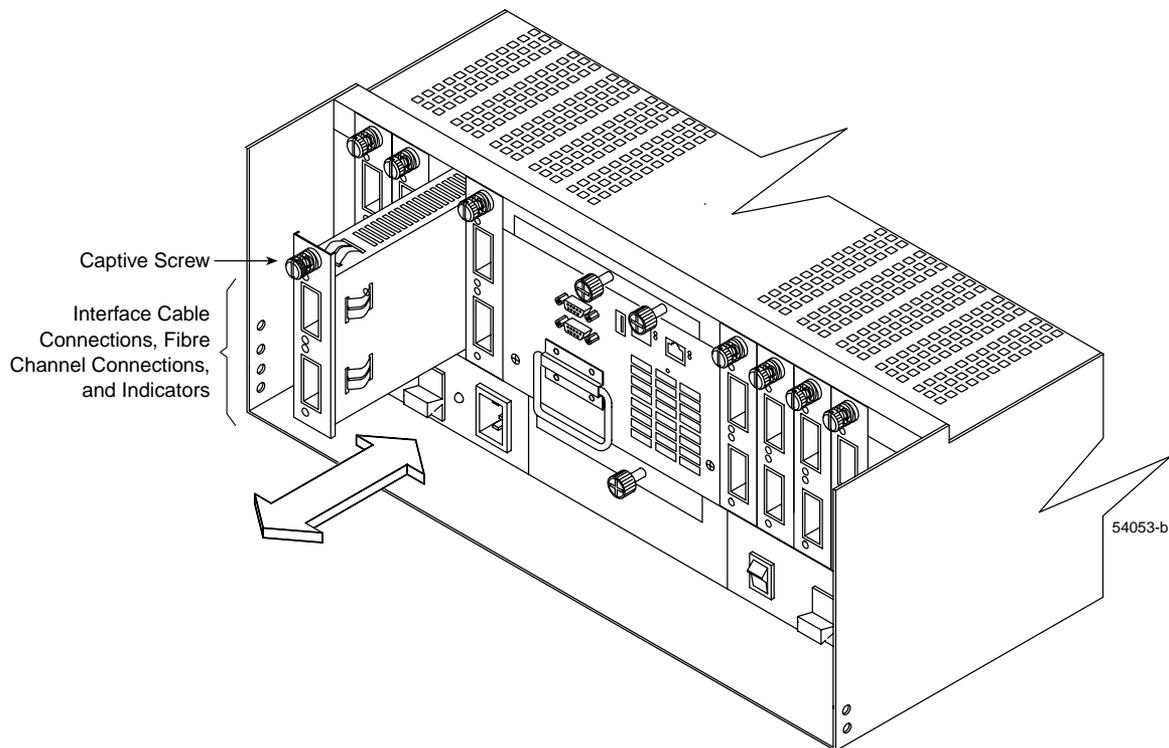

Figure 4-15 Removing and Installing a Minihub
6. Unfasten the captive screw on the minihub and remove it from the chassis (Figure 4-15).